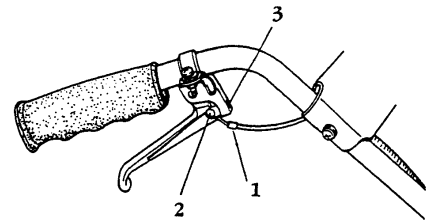

FIG. 8
b. (FIG. 8) Once the throttle wire is attached to the carburetor, locate the other end of the throttle wire and insert the wire end (2) into the throttle lever hole. While pulling on the throttle wire (outer part) insert the throttle wire sleeve (1) into the hole in the throttle lever (3).